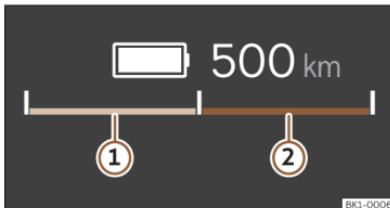

Fig. 21 On the digital instrument cluster: power indicator (schematic representation).
On the bar that is split in half, the power indicator always shows the availability of brake energy recuperation >>> Fig. 21 ① (green) on the left hand side and power availability >>> Fig. 21 ② (blue) on the right hand side.